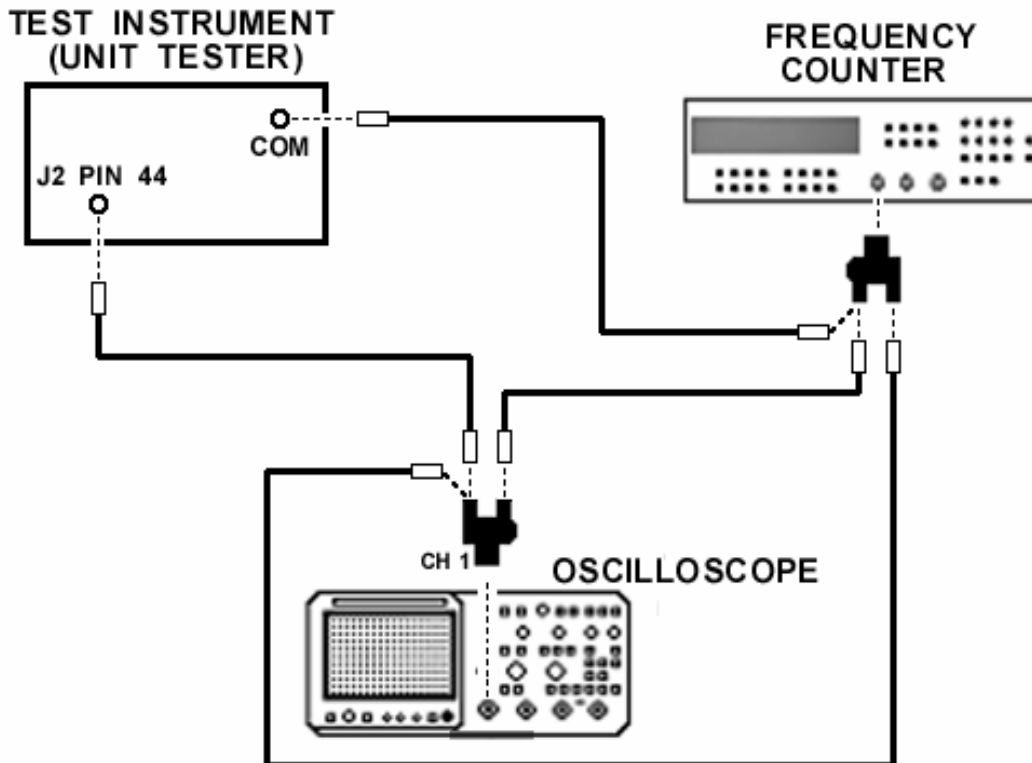

Figure 6. Display control - equipment setup.
(1) Connect equipment as shown in figure 6. Do not disconnect equipment connected in figure 1.
(2) Set **DISPLAY UPDATE** switch to **ON**.